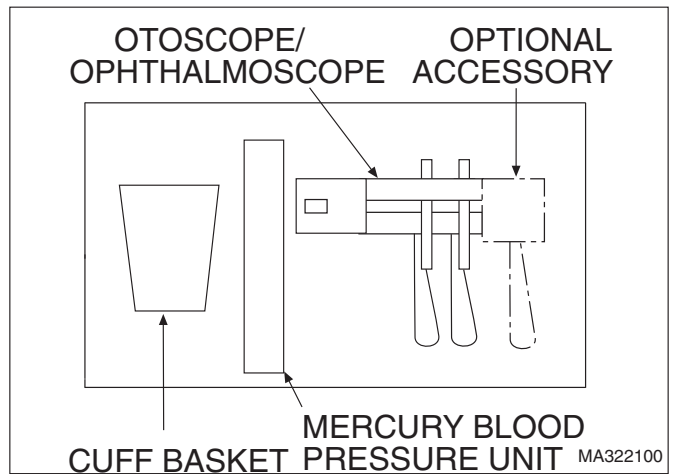

FIGURE 4. SUGGESTED INSTRUMENT LOCATION FOR A 34" X 19" INSTRUMENT PANEL
9. Mount instruments to the Instrument Panel using 3/4 in. (1.9 cm) long wood screws. See Figures 4 and 5 for suggested instrument locations.